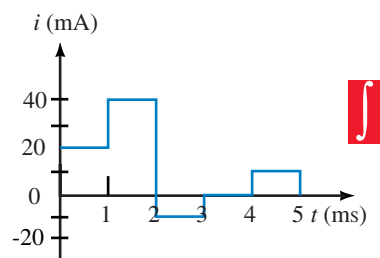

FIGURE 10-42
44. The current through a $1\text{-}\mu\text{F}$ capacitor is shown in Figure 10-42. Sketch voltage v_C scaled with numerical values. Voltage at $t = 0\text{ s}$ is 0 V .